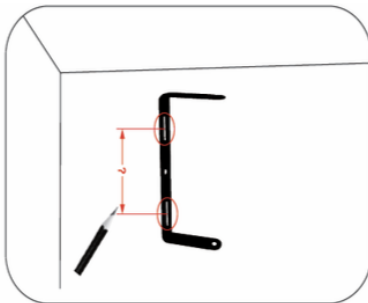

Figure 1.
1. Fasten the fixtures mounting bracket to a solid surface capable of supporting the fixture. Use customer supplied hardware that meets or exceeds requirements. **See figure 1,2 and 3**